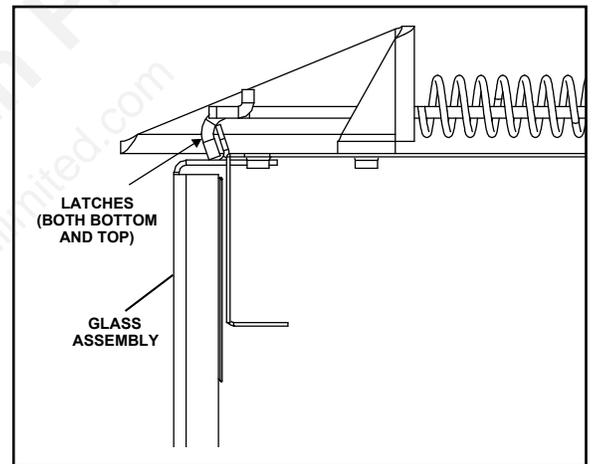

Figure 55. Glass Assembly
- Remove the glass door from the unit (Figure 55).